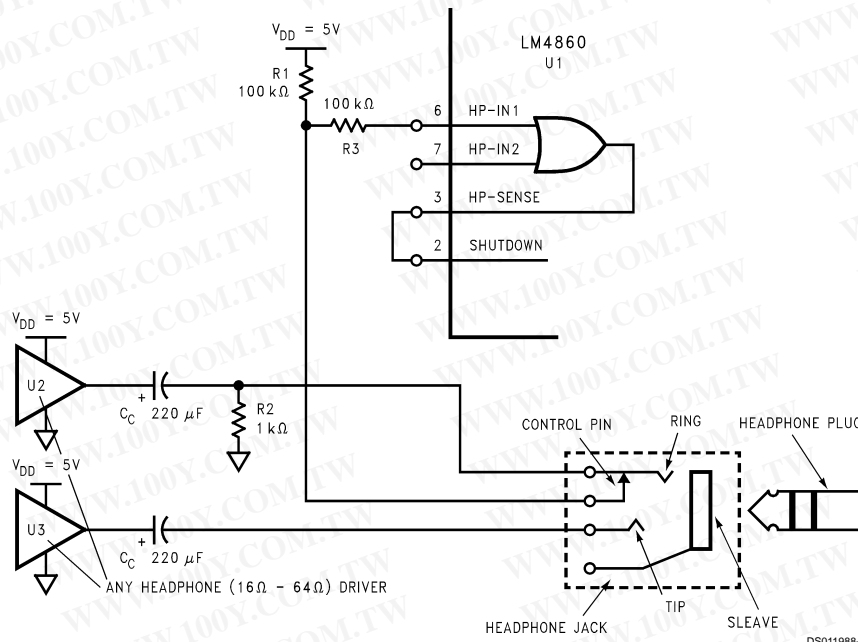

FIGURE 5. Typical Headphone Control Input Circuitry
*Figure 5* shows the implementation of the LM4860's headphone control function using a single-supply headphone amplifier. The voltage divider of R1 and R2 sets the voltage at the HP-IN1 pin to be approximately 50 mV when there are no headphones plugged into the system. This logic-low voltage at the HP-IN1 pin enables the LM4860 to amplify AC signals. Resistor R3 limits the amount of current flowing out of the HP-IN1 pin when the voltage at that pin goes below
When a set of headphones are plugged into the system, the contact pin of the headphone jack is disconnected from the signal pin, interrupting the voltage divider set up by resistors R1 and R2. Resistor R1 then pulls up the HP-IN1 pin, enabling the headphone function and disabling the LM4860 amplifier. The headphone amplifier then drives the headphones, whose impedance is in parallel with resistor R2. Since the typical impedance of headphones are 32Ω, resistor R2 has negligible effect on the output drive capability. Also shown in Figure 5 are the electrical connections for the headphone jack and plug. A 3-wire plug consists of a Tip, Ring, and Sleeve, where the Tip and Ring are signal carrying conductors and the Sleeve is the common ground return. One control pin contact for each headphone jack is sufficient
For a system implementation where the headphone amplifier is designed using a split supply, the output coupling cap,  $C_C$  and resistor R2 of Figure 5, can be eliminated. The functionality described earlier remains the same, however.